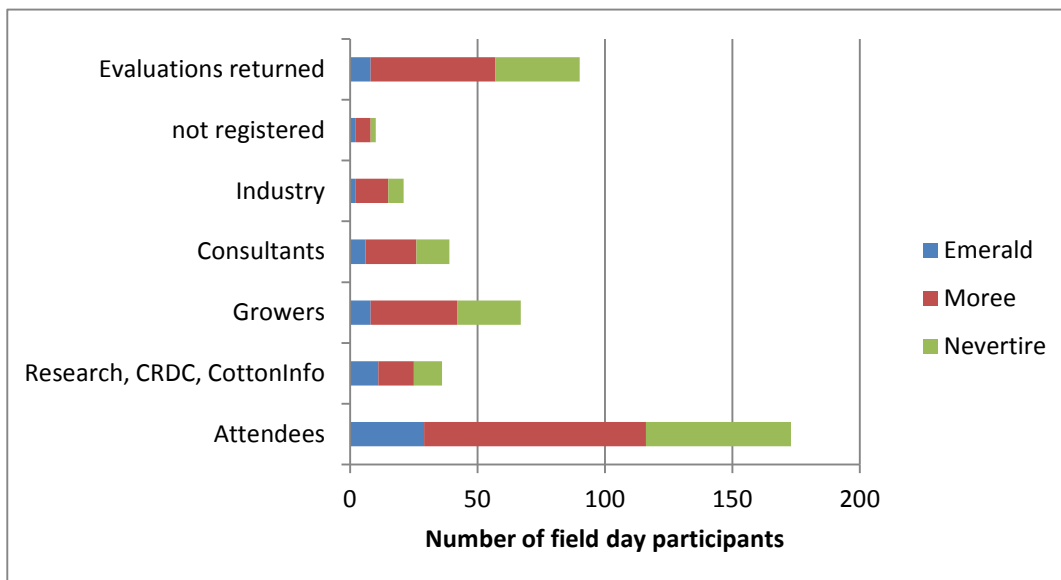
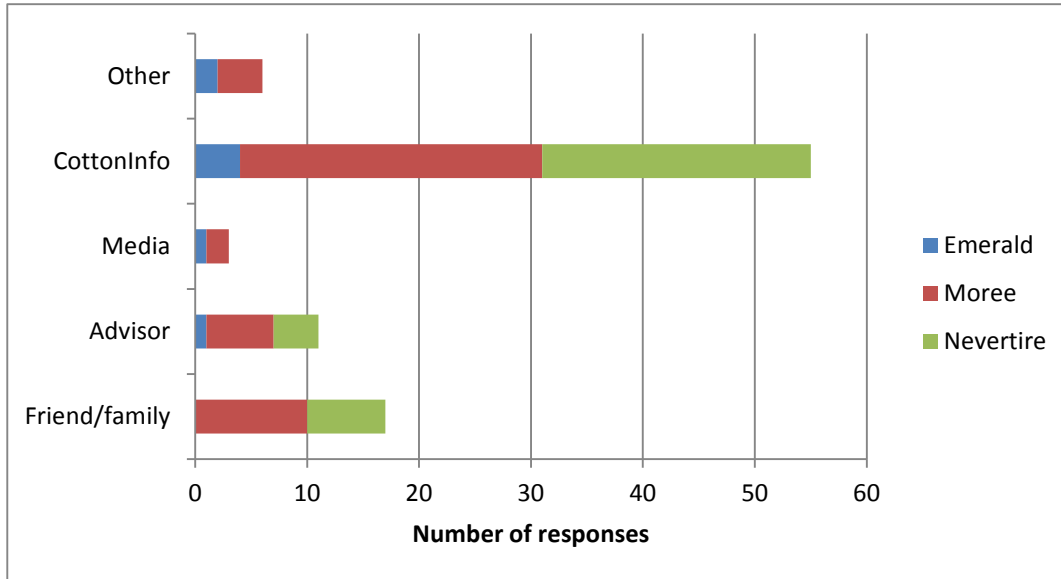

Figure 1: Classification of evaluation respondents who attended the 2015 Cotton Irrigation Research Tour
Figure 2: How participants heard about the 2015 Cotton Irrigation Technology Tour
There were a total of 173 participants registered and participated in the irrigation technology tour field days, including 67 growers, 39 consultants, 21 industry representatives (industry organisations, media and the rural finance sector) and 10 unknown as shown in Figure 1. Not all participants completed the evaluation feedback sheet, 90 sheets were returned (52 percent of participants), with their classification provided in Figure 2. The irrigators and consultants (106) who responded to the evaluation managed 181,732 ha land developed for irrigated cotton production.
The participants heard about this field day mostly through CottonInfo and through conversations with friends, family and advisors as shown in Figure 2.